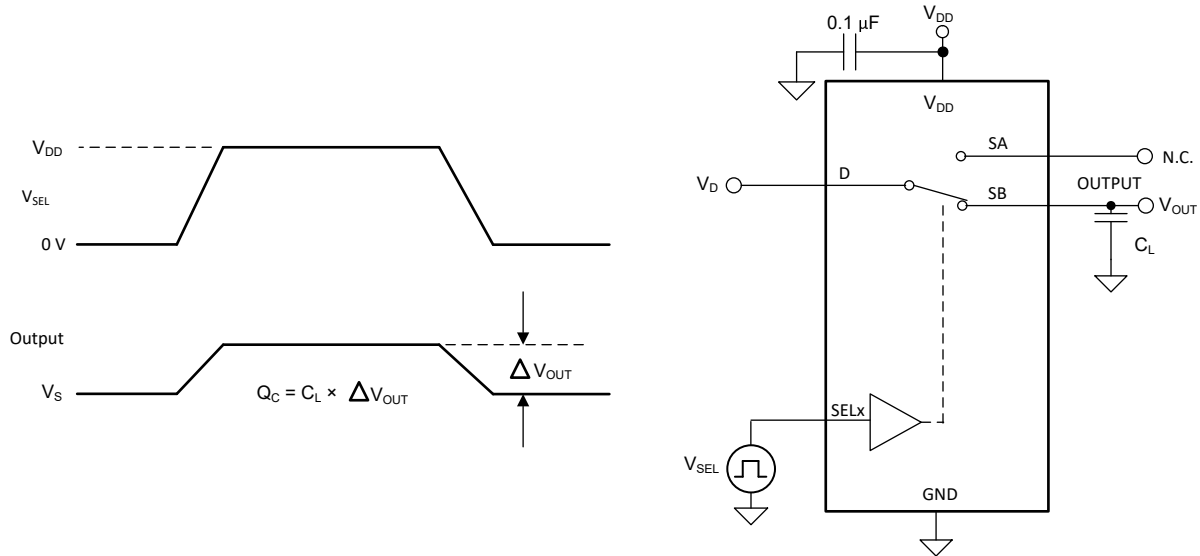

Figure 6-11. Charge Injection Measurement Setup
Any mismatch in capacitance results in a charge injected into the drain or source during the falling or rising edge of the gate signal. The amount of charge injected into the source or drain of the device is known as charge injection, and is denoted by the symbol Q_C . Figure 6-11 shows the setup used to measure charge injection from Drain (D) to Source (Sx).